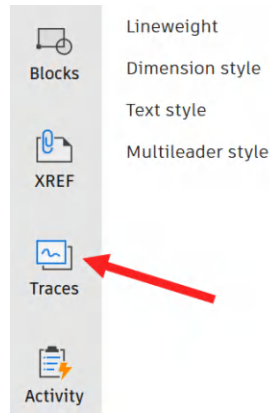

Figure 16.23: The Traces icon in AutoCAD Web
4. To check the recently added trace, you must open the **Traces Palette**. Click on the traces icon in the menu bar on the left of the AutoCAD Web screen, as shown in *Figure 16.23*.